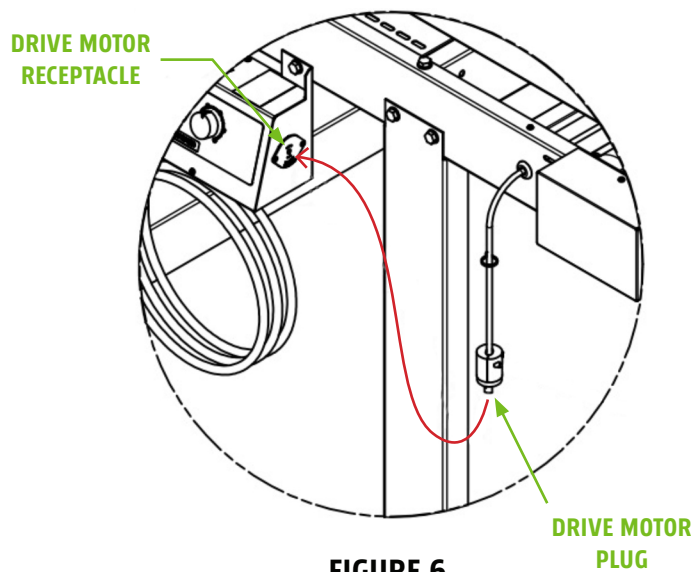

FIGURE 6
2. Insert drive motor plug into drive motor receptacle. Twist plug to lock in place (See **Figure 6**).